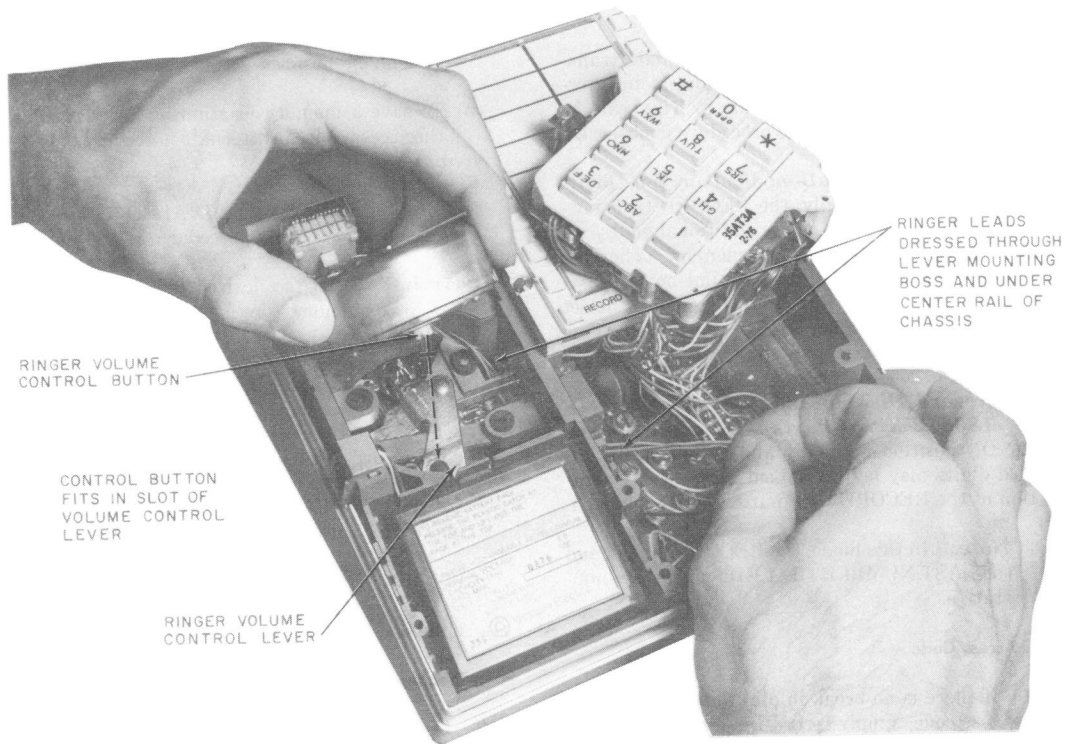

Fig. 10—Ringer Being Installed in 2960A01M Chassis With Dial Rotated Onto Memory and Shield Removed
- (1) Remove the faceplate (paragraph 3.15) and place the shield aside.
- (2) Disengage the two captive screws that hold the dial in place.
- (3) Gently lift dial, rotating counterclockwise to enable frequency switches located at lower front edge of dial to clear housing. As dial rotates clear, it may be placed on memory assembly with dial buttons up as in Fig. 10.
- (4) Check that dial connections are properly seated and reassemble by reversing the procedure.
- (5) Temporarily replace the lower housing and place the set on its feet.
- (6) Remove the upper housing (paragraph 3.16).
- (7) Remove the dial [paragraph 3.18 (2) and (3)] and place aside (Fig. 10).
- (8) Disconnect the ringer leads and remove ringer.
- (9) Dress the leads of the new ringer through the ringer adjust arm mounting boss and under the center rail of the chassis, and connect to the appropriate terminals.
- (10) As the ringer is lowered into its mounting position, pull any slack in the leads through to the dial side of the center rail (Fig. 10).
- (11) Replace the dial.
- (12) Remove the lower housing. Holding the ringer in position, turn the chassis over to expose the clearance holes in the power supply board.
- (13) Attach one ringer mounting screw onto the blade of a screwdriver, (see preceding note).
- (14) Insert the ringer mounting screw into one location and secure ringer.
- (15) Align the ringer adjust arm over the ringer volume control button (Fig. 10).
- (16) Replace the remaining ringer mounting screw with the "special" screwdriver and tighten ringer into place.
- (17) Replace the housings, and shield, faceplate, and handset.
- (18) Dial appropriate code for ring-back to test the ringer.
- (19) Turn battery switch to ON.
- (20) Reconnect 2012B (MD) or 2012D transformer.
- (1) Disconnect 2012B (MD) or 2012D transformer.
- (2) Turn battery switch to OFF.
- (3) Remove the upper housing (paragraph 3.16).
- (4) Release the battery and place aside [paragraph 3.19 (2) and (3)].
- (5) Release the dial [paragraph 3.18 (2) and (3)] and place aside (Fig. 10).